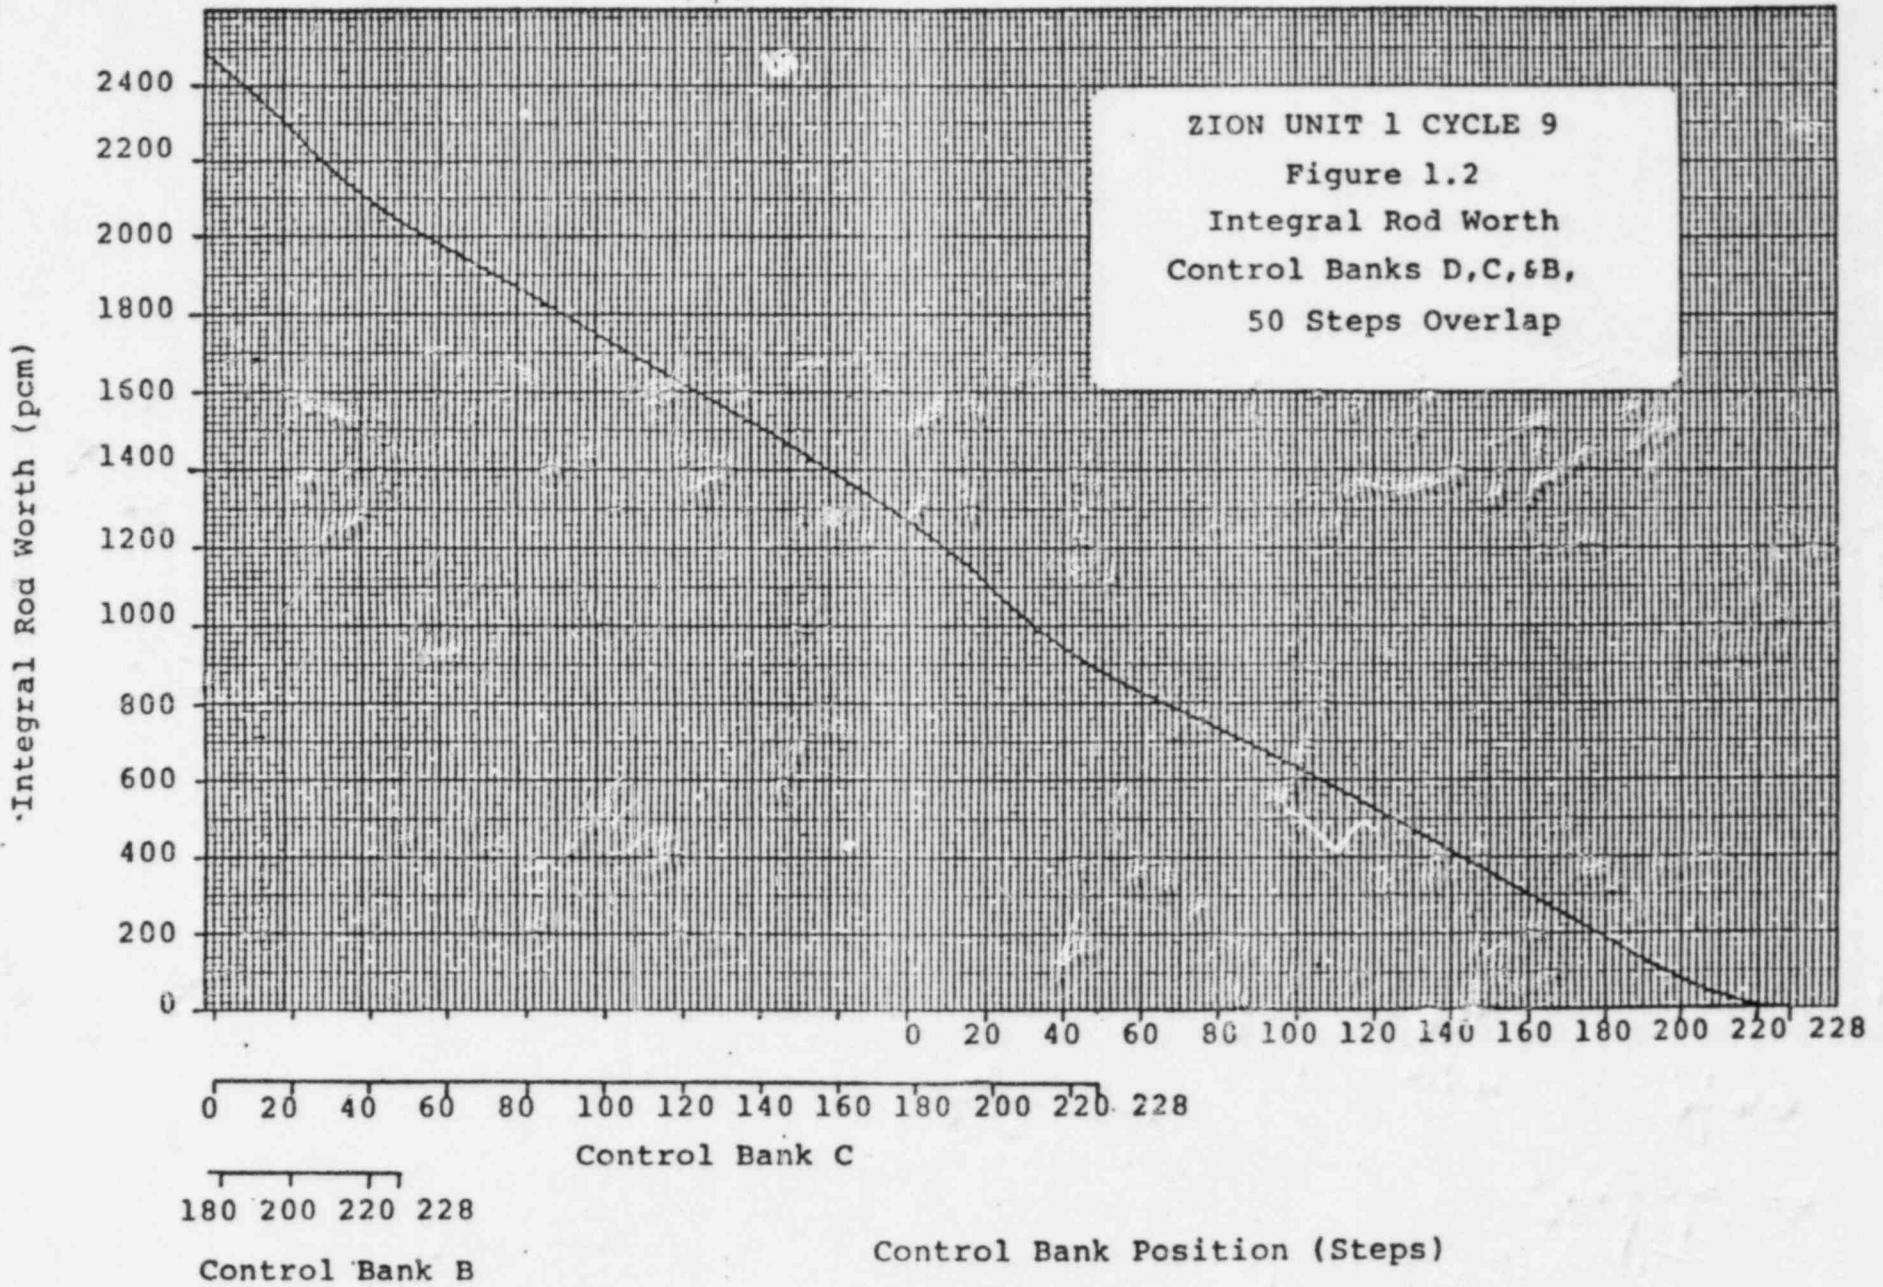

FIGURE 1.1
- a. Use Figures 1.1 and 1.2 to DETERMINE the final rod position if boron concentration is to remain unchanged. (2.0)